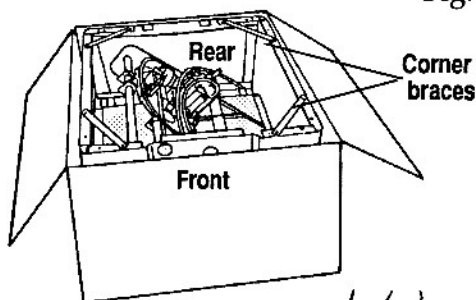

Fig. 3
5. Open the box, fold back and tape its flaps, as seen in Fig. 3. Remove the box lying on the table bottom and set it aside.
6. Use two 1/2" wrenches to remove four corner braces (29), as identified in Fig. 3. Save them for re-attachment later.